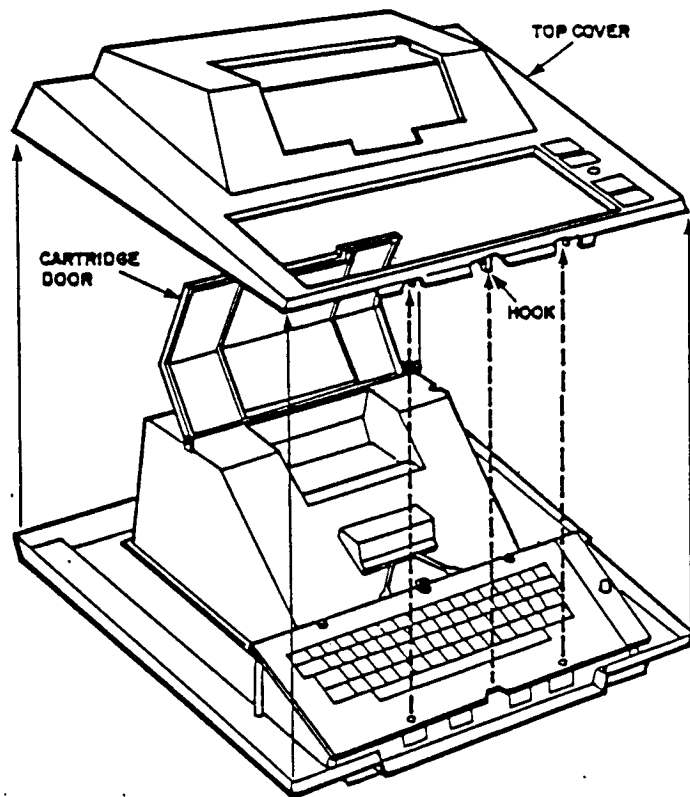

Figure 4-2. ATARI 400 Console Top Cover Removal
- Unhook top cover from keyboard (see Figure 4-2).